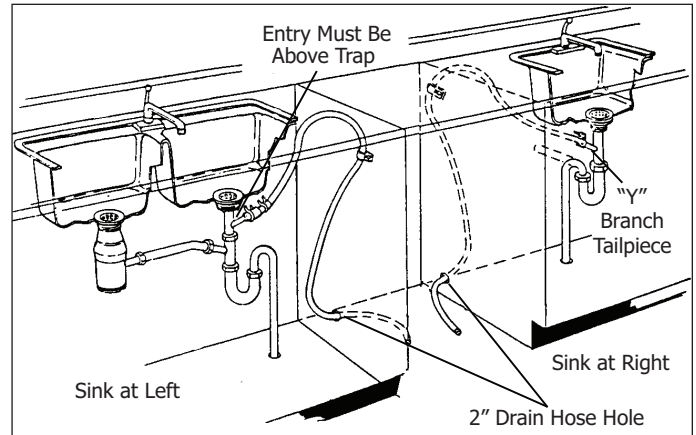

Figure 2-5.
1. Review Figures 2-5, 2-6 and 2-8 to see the different ways to connect dishwasher to drain system. Choose method that best suits your need.
2. If you connect to a sink drain, entry will need to be above trap. A "Y" branch tailpiece and connector kit, not included, will make this method easier and includes all needed fittings and instructions. (See Figure 2-5).